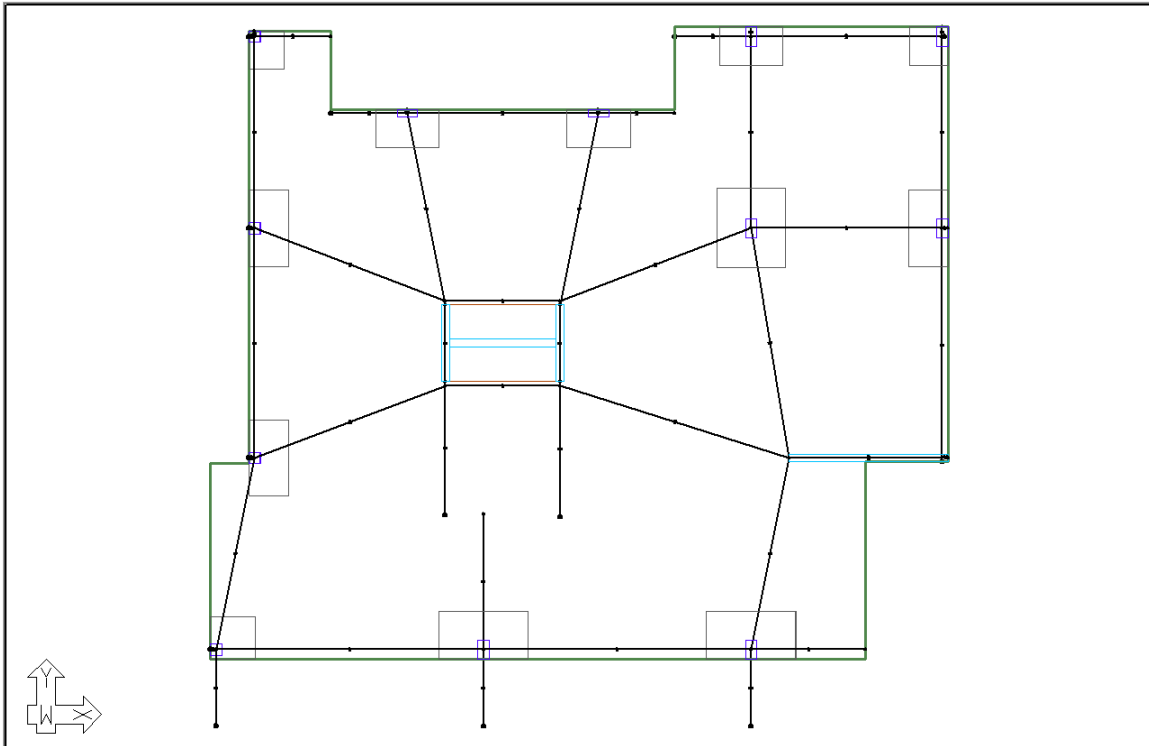

FIGURE 10-7
- At this point, the user's support lines should look as shown in **FIGURE 10-7**.